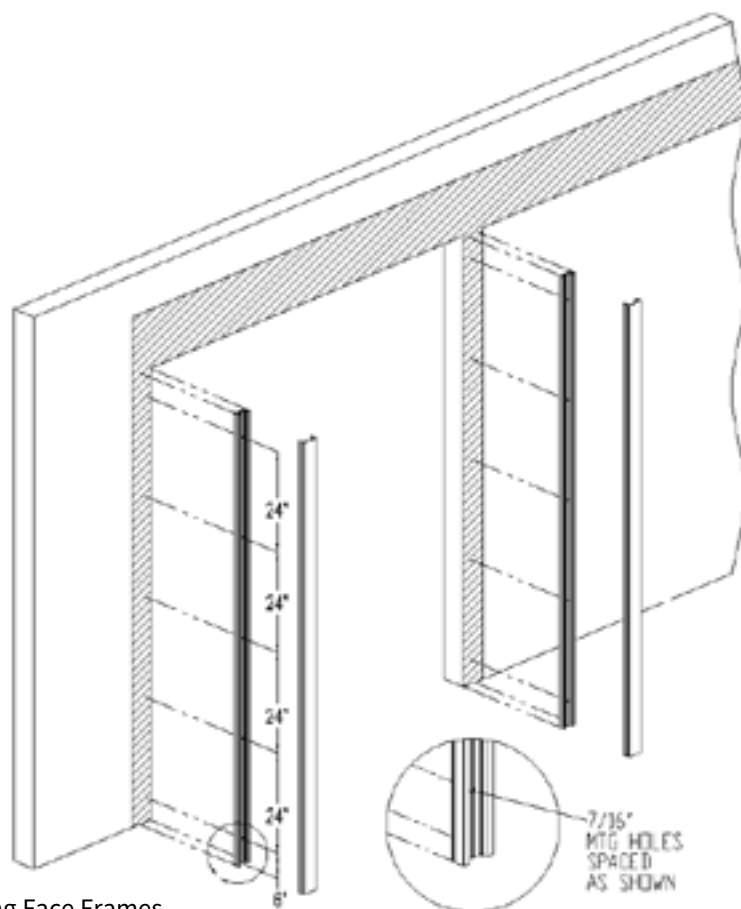

Figure 9: Mounting Face Frames
**Note** determine if the floor is level. If the floor is not level, attach the Face Frame to the wall on the high side of the opening (see Figure 9).